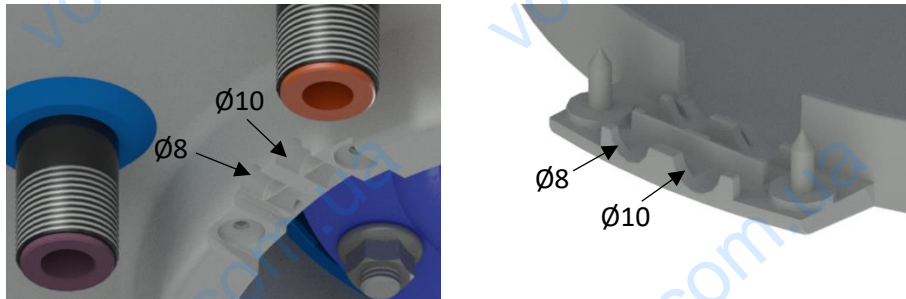
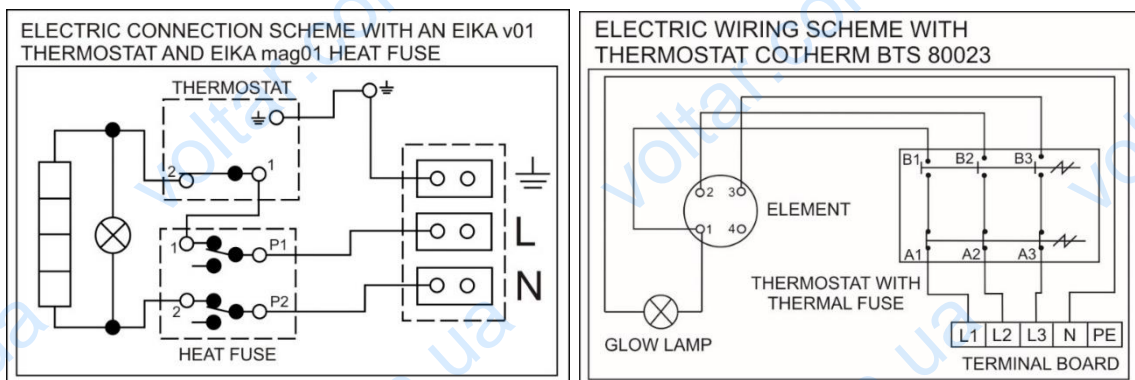

Figure 6
Figure 7
Perform the connection according to the scheme. Factory connection must not be changed! (Figure 7) the electric wiring casing remove the partition corresponding with the input wire diameter of $\varnothing 8$ or $\varnothing 10$ (Figure 6). The degree of protection of electric parts of the heater is IP 44. Power input of electric element is 2000 W and 4000 W.
- The electric wiring scheme is attached to the water heater on the side of the electric installation guard (Figure 7)